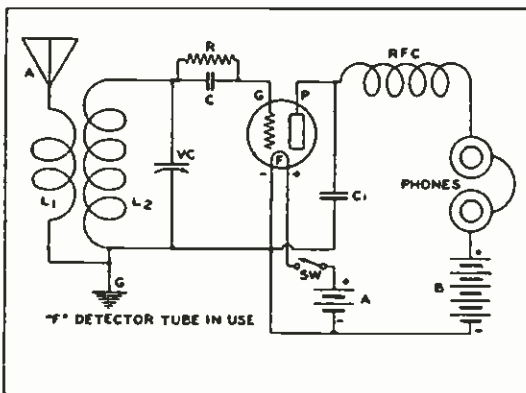
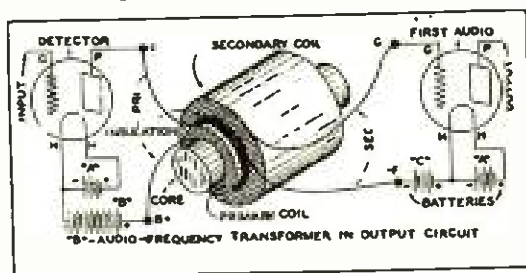
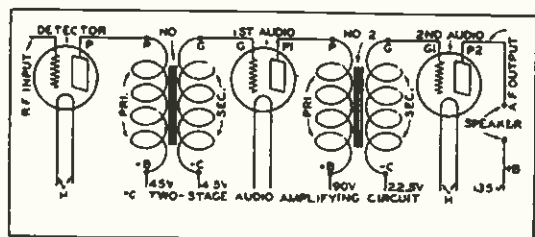

Figure 28
Figure 30
Figure 31
A Simple Circuit At "F" Fig. 28, we see a typical detector-tube circuit. All the symbols used have been explained in previous chapters. The antenna current passes through the primary coil L1 and induces stronger currents in the secondary L2 which is tuned to resonance by the condenser VC. A selected signal can be impressed on the grid G. But G is given a negative charge. The grid condenser C and grid leak R are connected close to G. The condenser C permits high-frequency alternations to pass to the grid, and holds back any direct current. The leak R permits any excess of electrons on G to leak back slowly into the circuit. Each time G lowers its negative potential (when a positive alternation is impressed upon it) a certain number of electrons slip across from the filament to the plate and cause a rise in the plate current. The detection method shown here is the *grid leak and condenser* scheme. It is sensitive and gives best results on distant, weak signals. But it is not so stable when the resistance of the leak R has a high value. It is the *grid-bias* method which is in almost universal use today.
In illustration "B" Fig. 30 we see a transformer coupling the detector tube to the first audio tube. This is the *first* a.f. transformer. The a.f. tubes in an audio circuit following the detector are named in the order of their arrangement—first, second, etc. The last is the output or power tube. The r.f. tubes in the radio-frequency circuit preceding the detector are also similarly numbered (see Chapter Five).
current. So, we see, at the right of the transformer shown at "B" Fig. 30, this second tube, or the *first audio tube*. The plate of this tube can be connected to a pair of headphones, and the volume of sound will be much greater than that heard when only a detector tube is used, as shown, for instance, at "F," in Fig. 28 page 33. Or the plate can be attached to P of the primary of another, or *second audio transformer*—beginning a *second audio stage*—for further amplification and greater audibility.
At "C" Fig. 31, is shown a diagram of an audio amplifying circuit. It is explained by symbols which have been previously described. The current from the detector plate (P) actuates the primary of the audio transformer No. 1, the output of which is impressed upon the grid (G) of the first audio tube. The plate potential of this tube (P1) is maintained at a higher potential than that on the detector, and the amplified grid voltage will give greater control (at G) and more pronounced variations in the plate current. The output (from P1) of the first a.f. tube operates the primary of the second audio transformer No. 2. The induced voltage in the secondary of No. 2 is much greater than that in the secondary of the preceding transformer (No. 1), and the voltage impressed on the grid (G1) of the second a.f. tube controls even a still greater plate potential (P2) which operates the loud speaker.
We find, in Chapter Three, illustrations "G" and "H" Fig. 8, page 13, a radio-frequency transformer; in Chapter Four, at "H" Fig. 12, page 18, a variable condenser; in Chapter Five, at "D", Fig. 16, page 23, the explanation of how a r.f. transformer is tuned by a variable condenser; also, at "E", Fig. 17, how several of these tuned units can be assembled in r.f. stages so as to form a tuned radio-frequency amplification circuit; in Chapter Six, the description of the actions of radio tubes; in Chapter Seven, at F, Fig. 28, page 33, a typical detector circuit; and, in Chapter Eight, the principles of audio amplification, with a standard circuit diagram illustrated at C, Fig. 31.
We are ready, now, to take the tuned radio-frequency circuit (E), shown in Fig. 17, page 24, and add to it the detector (F) given in Fig. 28. Then, to the latter, we will connect the audio-frequency circuit (C), Fig. 31. As a result of the combination of these three independent circuits, we will have a complete five-tube tuned radio-frequency receiver of good selectivity and sensitivity. *Selectivity* is the degree to which a receiver is able to select and separate radio signals of different frequencies; *sensitivity* should not be confused with selectivity, for a receiver may have one without the other. Sensitivity is the distance-getting ability of a set and the degree of its responsiveness to extremely weak signals.
A tickler may be added to the typical detector circuit (F) Fig. 28. The coils of that circuit (L_1 and L_2), together with a tickler, will make the three-circuit tuner shown in B of this chapter. Regenerative receivers are not always held in high esteem because of their tendency to cause noises in nearby receivers by re-radiation. However, with some modifications, they are widely used for amateur and short wave reception. A small, well-designed tuned radio-frequency receiver with a regenerative detector will be hard to beat for distant reception of weak signals by means of phones. The several critical adjustments, however, have militated against tuned-radio-frequency receivers using variable tickler control of regeneration. The regenerative detector, however, is one of the fundamental and elementary types.